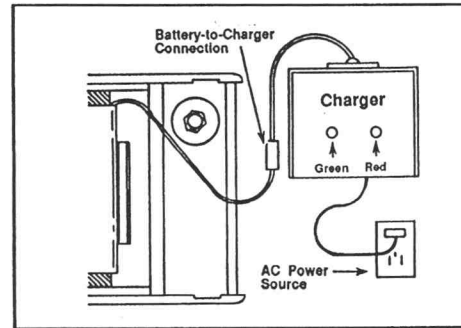

Fig. 3-4. External Charger Setup.
- 5) Connect battery pack cable to external charger per Fig. 3-4.